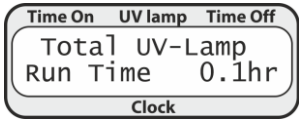

Figure 13. UV lamp run time
6.7. **UV lamp run time.** In default screen, press the ▼ key once to display the run time of the UV lamp (fig. 13). Display reverts back to default after 5 s or any key press.